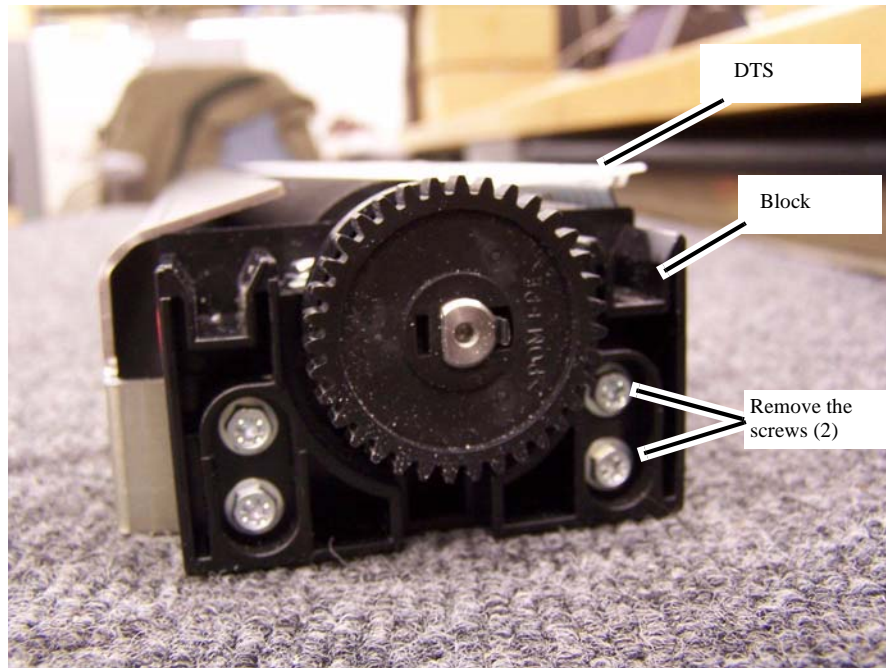
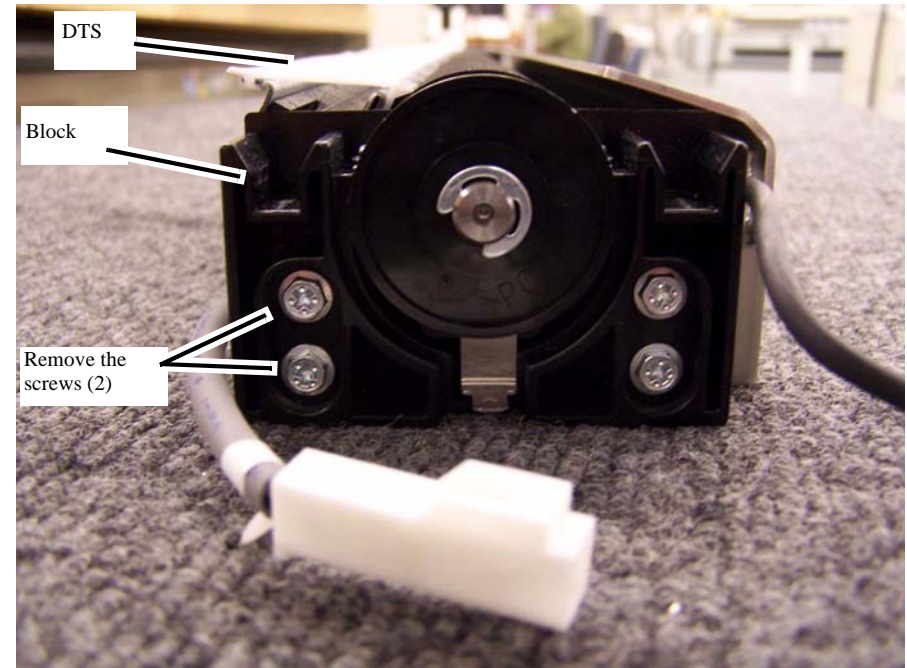

Figure 1 BTR/DTS right end block
Figure 2 BTR/DTS left end block
3. Remove the screws (4) that secure the DTS Assembly to the Blocks (Figure 1 and Figure 2).